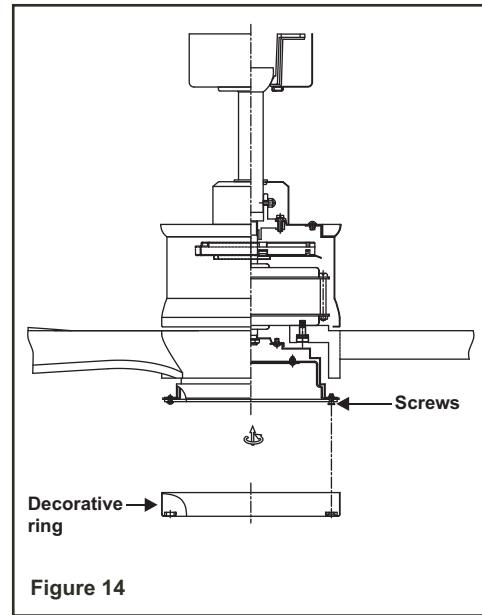

Figure 14
4. Slide the decorative ring up to light kit assembly and place the key hole on the decorative ring over the two screw on the light kit, turn decorative ring until it locks in place at the narrow section of the key holes. (Fig. 14)